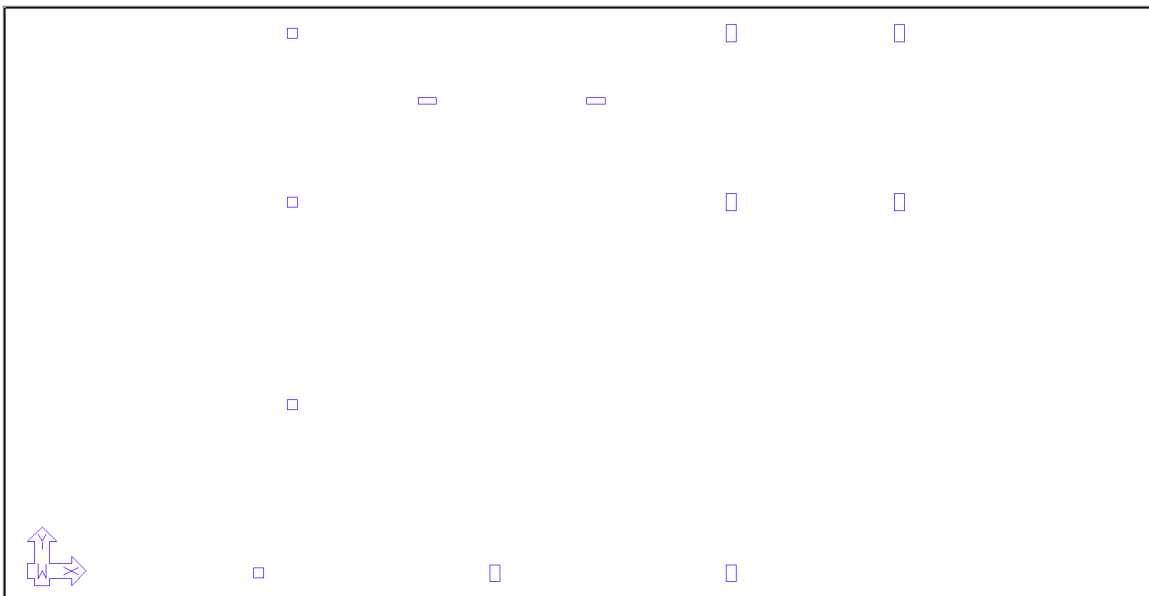

FIGURE 5-14
- Go to *Model->Transform* and click on the **Transform Column**  icon. This will automatically create the column builder objects based on the outline of the polylines from the DWG as shown in **FIGURE 5-14**.